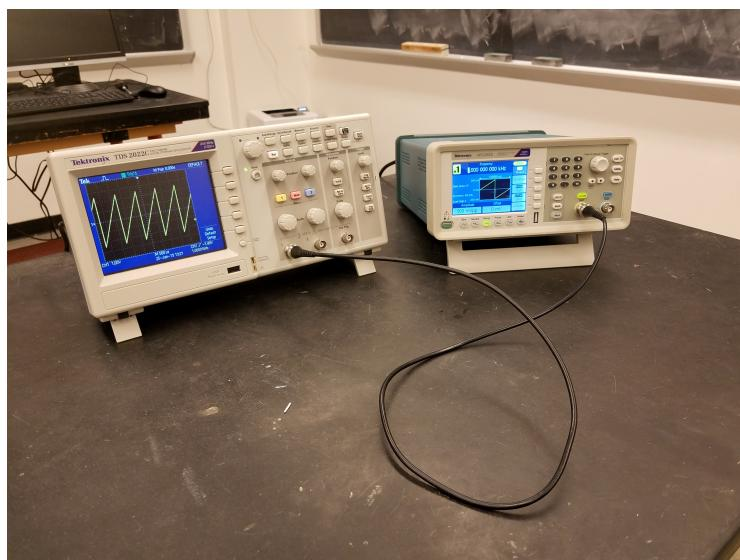

Figure 5.1: Initial setup.
Connect the output of Channel 1 on your function generator directly to Channel 1 of your oscilloscope with a BNC cable, as in Fig. 5.1. Set your function generator to produce a 1 kHz Ramp function with a peak-to-peak amplitude of 600 mV. While the Ramp function is selected, you will have an option “Symmetry” available. Press the menu button next to Symmetry and set the value to 100%. Turn on your oscilloscope and press the “Default Setup” button. Recall from last week that you need to remember to (1) set your function generator to expect high-impedance output, (2) enable the function generator output by pressing the “On/Off” button above the BNC connector for the channel, so that button is lit (this is the last time these steps will be explicitly mentioned.) The ramp function should be immediately visible on your scope. Adjust the attenuation factor of Channel 1 to unity (X1) appropriate for BNC cable and confirm the peak to peak amplitude and the period are as expected (Leave Channel 2 alone for now.)